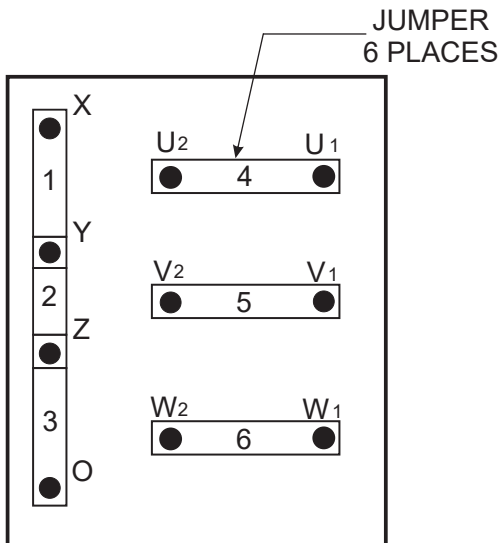

Figure 15. Voltage Change-Over Board (240-Volt Configuration)
Various output voltages can be obtained using the UVWO output terminal lugs. The voltages at the terminals are dependent on the placement of the jumper plates (6) on the **voltage change-over board** (Figure 15) and the adjustment of the **voltage regulator**.
1. Jumper the voltage change-over board for 240-volt operation as shown in Figure 15.
1. Make sure the voltage change-over board is jumpered for 240-volt operation as shown in Figure 15.